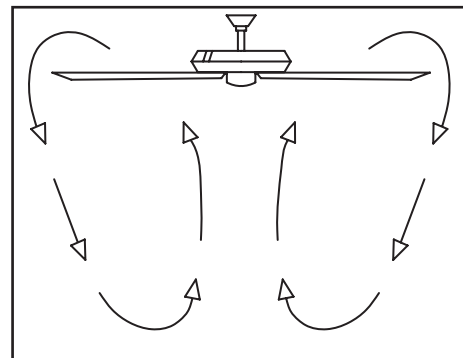

Figure 21
**Cool weather** - (Reverse) An upward air flow moves warm air off the ceiling as shown in Figure 21. This allows you to set your heating unit on a lower setting without affecting your comfort.